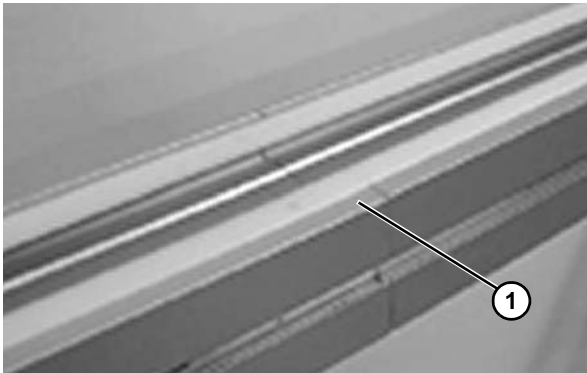

Figure 32
3. The slide rail (**Figure 32, item 1**) must be mounted across the entire beam section. Remember to mount slide rails on both top and bottom side of the beam (unless top running chain only).